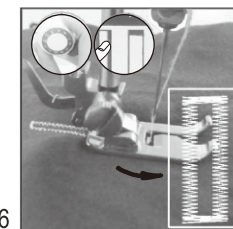

Fig.27
6. Choose the 12th stitch, then turn on switch and sew till buttonhole is oversewed fully, then stop sewing(Fig.27)..